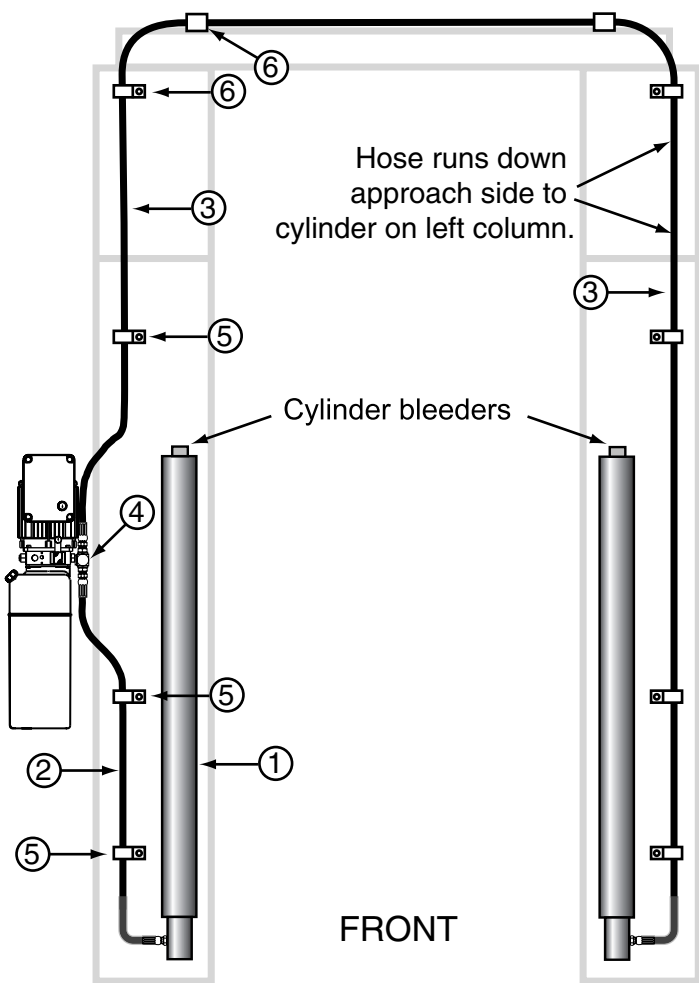

Fig. 9a
10. Hoses: Clean adapters and hose. Inspect all threads for damage and hose ends to be sure they are crimped. Install hose and hose clamps, Fig. 9A.